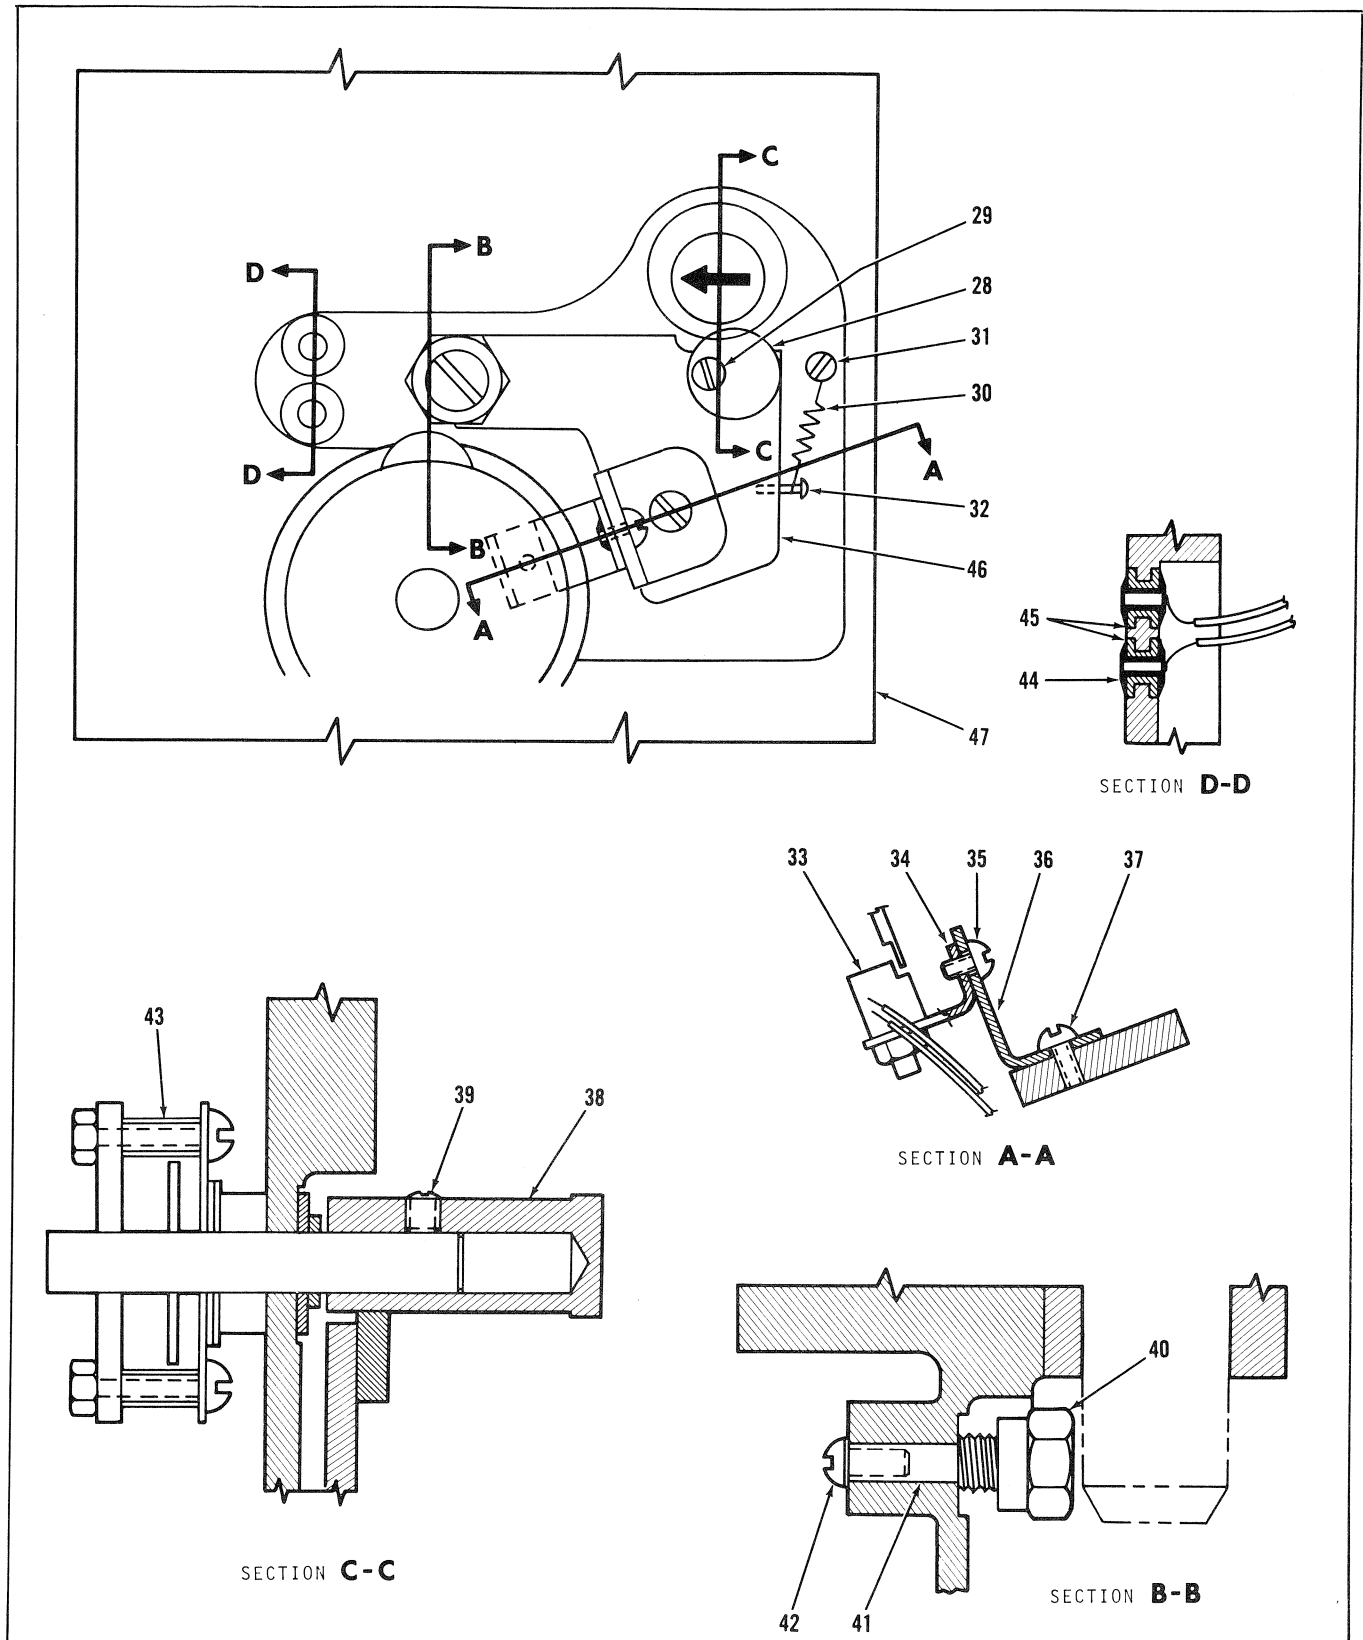

Figure 6-2. Optical and Magnetic Sound Head Assembly (Sheet 2 of 2 showing components applicable to Model LVRM)
m. Figures 6-2 and 6-5: Delete entirely.
- e. Figure 6-2: Add sheet 2 and magnetic components as follows: